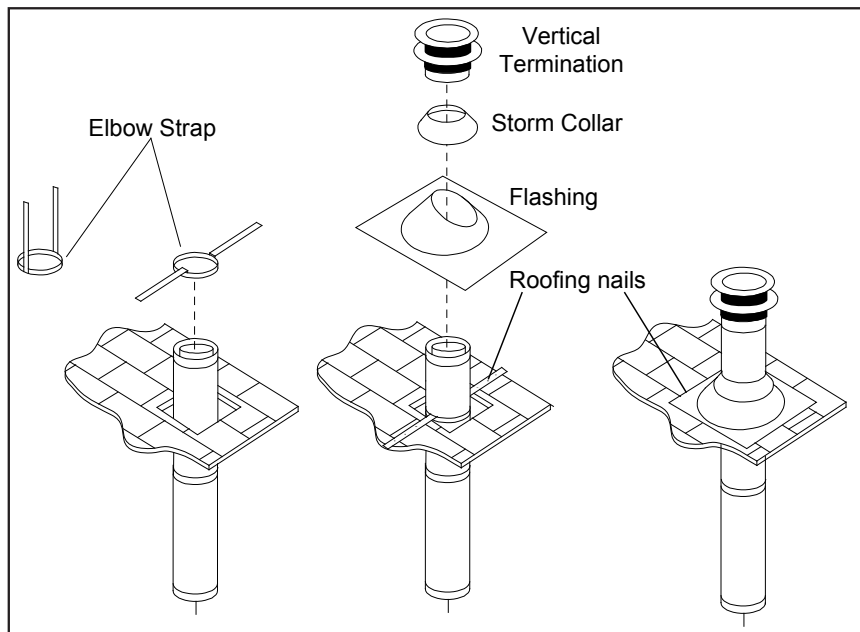

Figure 34. Vertical Vent Termination
- STEP 6.** Once the pipe sections have been joined, and run up through the hole in the roof, slip an elbow strap over the exposed sections, bend the support straps outwards, and push the elbow strap down to the roof level, as shown in Figure 34. Tighten the clamp around the pipe section. Use a level to make sure the pipe is truly vertical. With roofing nails, secure the support straps to the roof. Seal the nails holes heads with non-hardening mastic. Trim the excess length of the support straps that extend out beyond the edge of the flashing.
- STEP 9.** Slip the storm collar over the pipe, and push it down to the top of the roof flashing as shown in Figure 34. Use the non-hardening sealant around the joint between the pipe and the storm collar.